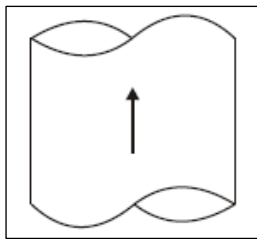
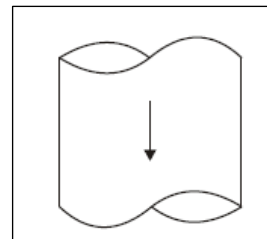

Fig 9: Wet Gas or Saturated Steam Flow
Fig 10: Vapour Containing Liquid Flow
- For those flow meters mounted in a vertical pipe it is desirable, but not essential, that a wet gas or saturated steam flow is downward through the flow meter (Fig. 9) and a vapour-containing liquid flow is upward through the flow meter (Fig. 10).